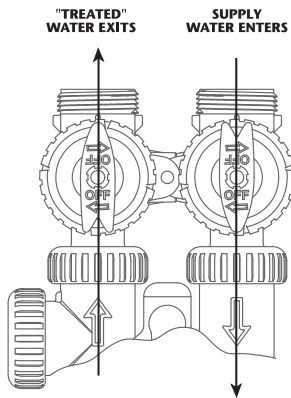

Figure 1
1. **NORMAL OPERATION POSITION:** The inlet and outlet handles point in the direction of flow, indicated by the engraved arrows on the control valve (**Fig. 1, page 4**).
13. Open a treated water line and turn bypass valve to the service position (**Fig. 1, page 4**) and allow water to fill tank slowly. Once water is flowing to treated water faucet, observe tank for any leaks.